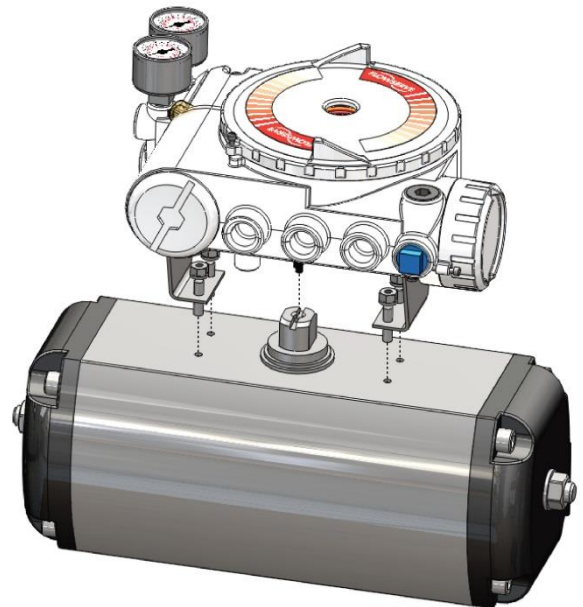

Figure 12: Automax Assembly
- 3 Mount the positioner onto the actuator using the washers and nuts. See Figure 12.